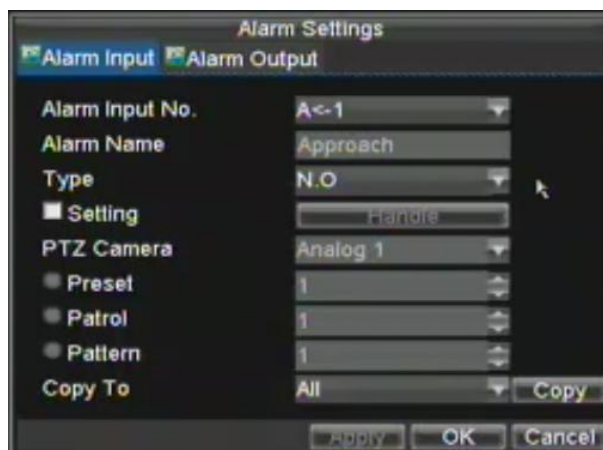

Figure 6. Alarm Management Settings
2. Select the **Alarm Input #** and click the Set button. This will open the Alarm Input Setting menu, shown in Figure 6.